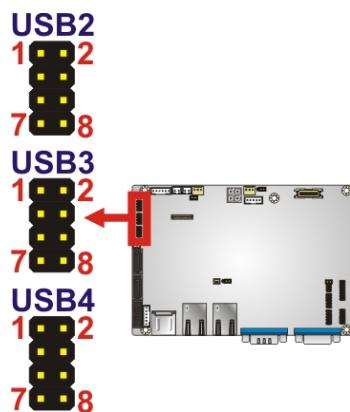

Figure 3-18: USB Connector Location
**CN Location:** See Figure 3-18